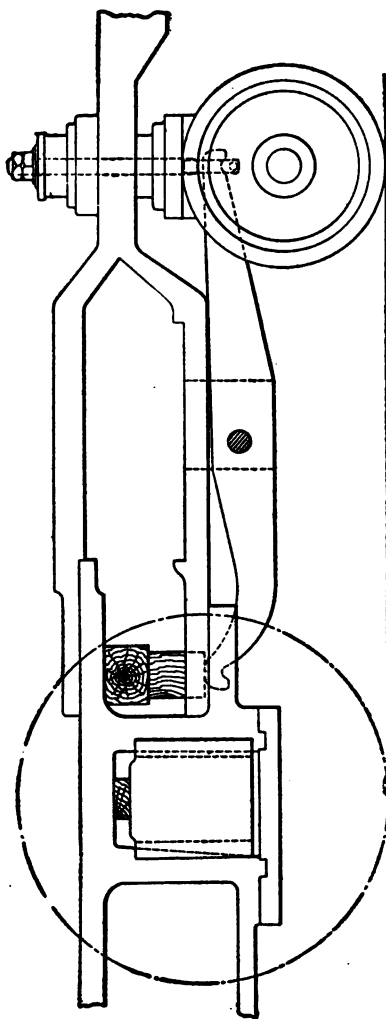
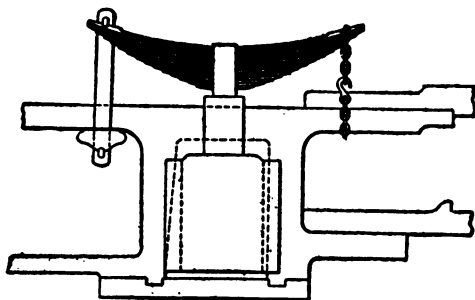

FIG. 46.—METHOD OF BLOCKING A MOGUL OR CONSOLIDATION LOCOMOTIVE WITH A
FIG. 47.—AN ALTERNATIVE METHOD OF BLOCKING A MOGUL OR CONSOLIDATION LOCOMOTIVE WITH A BROKEN CROSS EQUALIZER.
If it is found to be necessary to block both of the forward boxes, the intermediate equalizer to the truck must also be blocked, as in Fig. 46.
A. The front end of the engine should be jacked up so as to relieve the equalizer of all load. The back end of this equalizer should then be blocked down, as in Fig. 46, so that the front end cannot strike the axle. After which the jacks can be removed and the engine run cautiously with the full train. The reason for slow and cautious running in this case is that the front truck being entirely relieved of all load would be apt to leave the rails if the speed were high.
A. Jack up the front end of the engine and put blocking over the forward driving axle boxes to carry the frame. Also remove the springs and the broken part and block the intermediate equalizer down, as shown in Fig. 46. Or, as an alternative, the blocking over the axle box may be omitted and the forward end of the driving spring chained down to the frame, as shown in Fig. 47, provided there is room for the passage of the chain back of the driving wheel. The blocking of the equalizer may be left as described.
A. The front end of the engine should be raised and blocking be placed either over the forward axle box, as shown in Fig. 46, for a broken cross equalizer; or above the cross equalizer and beneath the boiler, thus holding the former down in position. The broken part is, of course, to be removed.